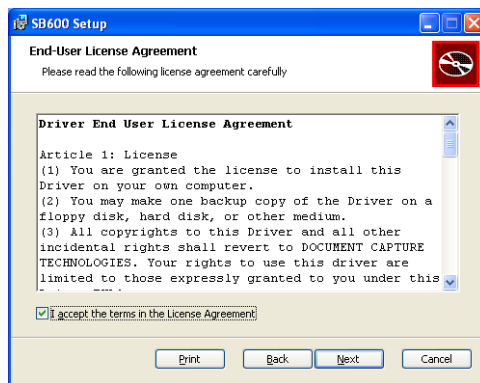

Fig. 1
- b) Check the EULA accept box then click "Next" (Fig. 1) above.